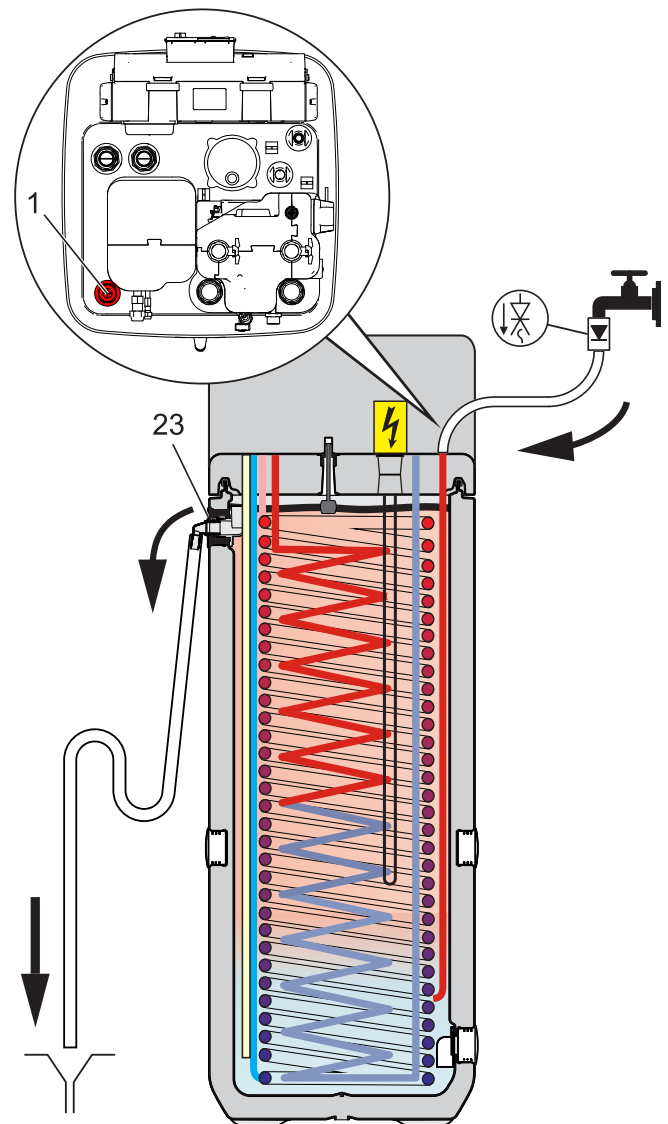

Fig. 7-1 Filling the buffer tank - without connected DrainBack solar system
- 1 Connect the **filling hose** with non-return valve (1/2") to the **"Solar - inflow"** connection (Fig. 7-1, item 1).
- 2 Fill the storage tank of the Daikin Altherma EHS(X/H) until **water escapes from the overflow connection** (Fig. 7-1, item 23).
- 3 Fill the storage tank of the Daikin Altherma EHS(X/H) until **water escapes from the overflow connection** (Fig. 7-1, item 23).